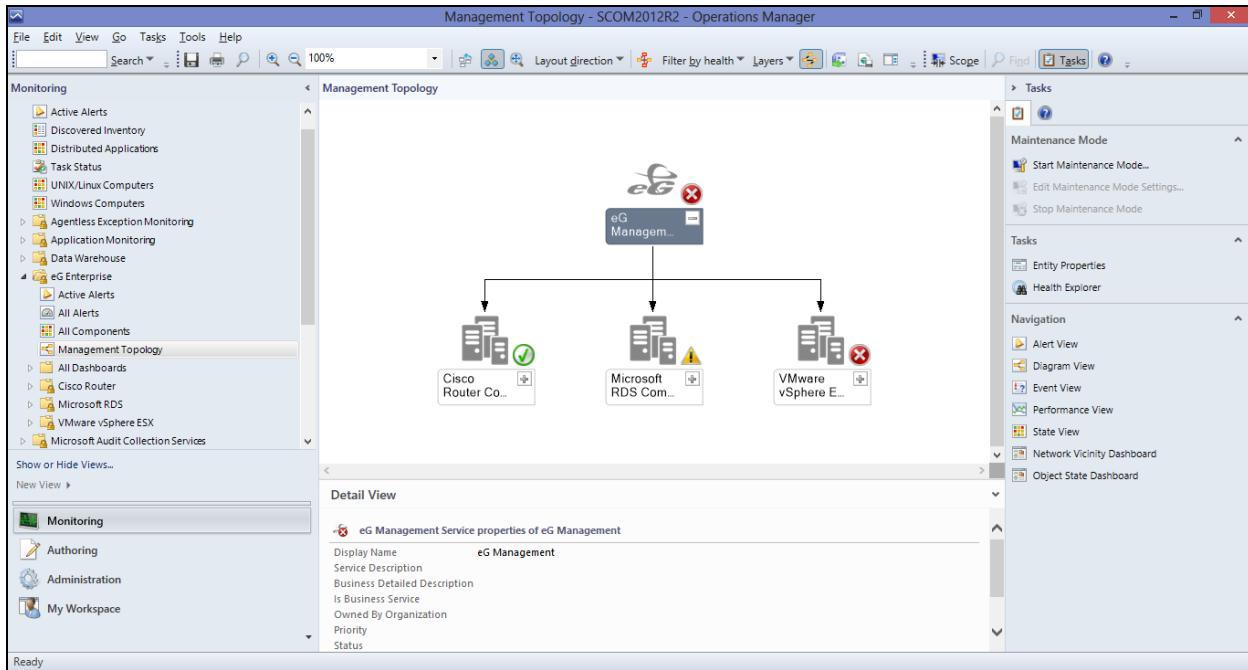
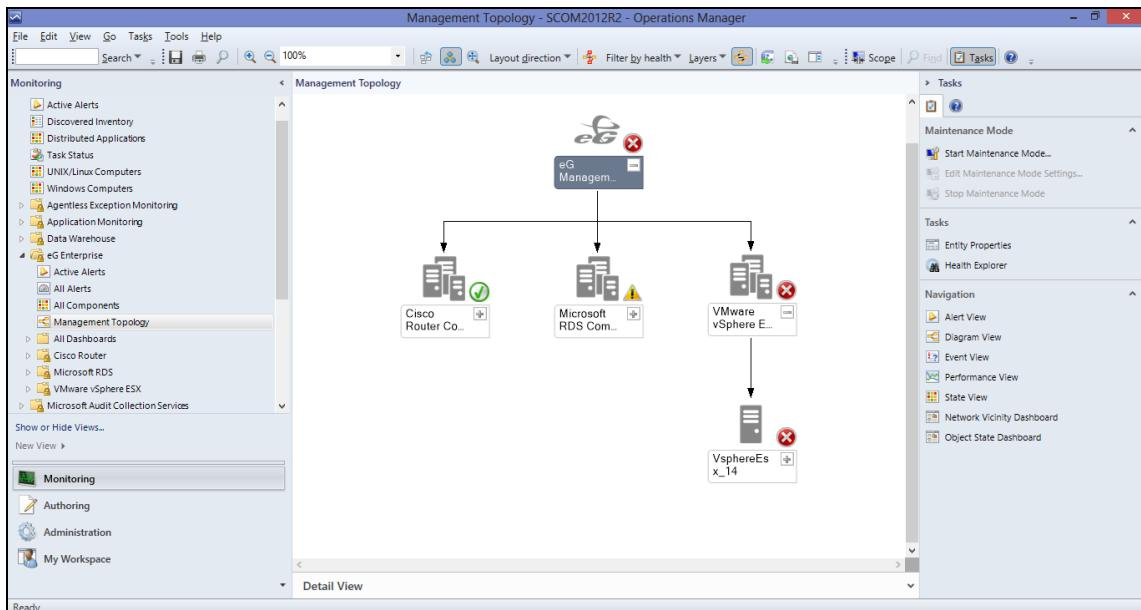

Figure 3.10: The Management Topology of the eG-managed infrastructure
Figure 3.11: Drilling down from the high-level topology view to know which VMware vSphere server is in a Critical state
1. Click the **Management Topology** node below the **All Components** node (see Figure 3.10). The right panel will then display the topology representation depicted by Figure 3.10. From the topology, it is clear that the eG-managed infrastructure is currently in a Critical state, because one of the servers in the infrastructure – namely, the VMware vSphere server – is experiencing Critical issues.
2. You can also drill-down from the high-level topology view of Figure 3.10 to identify the vSphere server that is experiencing the Critical issues and to zero-in on the precise problems that are impacting this server's performance. For this click on the '+' icon alongside *VMware vSphere ESX* in Figure 3.10. Figure 3.11 will then appear.
3. Figure 3.11 reveals that the vSphere server, *VsphereEs_x_14*, is the only vSphere server that is managed in the environment, and is currently in a Critical state. To identify the exact layer where the Critical issue occurred,